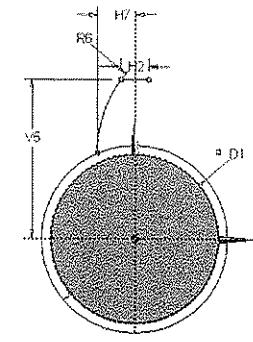

Figure 5-76 The arc created
8. Choose the **Arc by 3-Points** tool from the **Draw** toolbox and then draw an arc, as shown in Figure 5-76. For dimensions and placement of the arc, refer to Figure 5-59.
9. Apply dimensions and constraints to the arc created, refer to Figure 5-76.